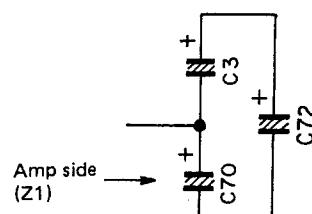

Fig. 2-2
- When this operation is viewed from the amp, the circuit can be described as shown in Fig. 2-2. Namely, the power impedance Z_1 viewed from the amp is as follows.